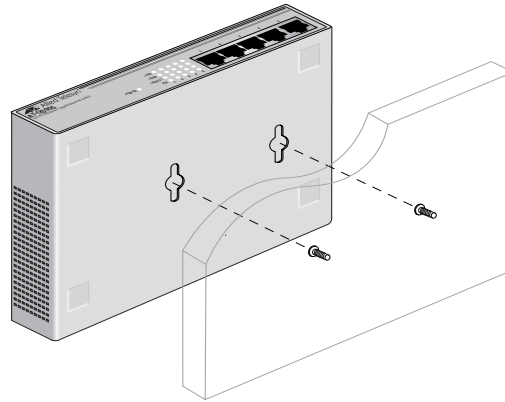

Figure 7 Wallmounting an AT-GS905 Switch
6. Hang the switch onto the wall using the two keyhole slots located in the bottom of the unit, as illustrated in Figure 7.